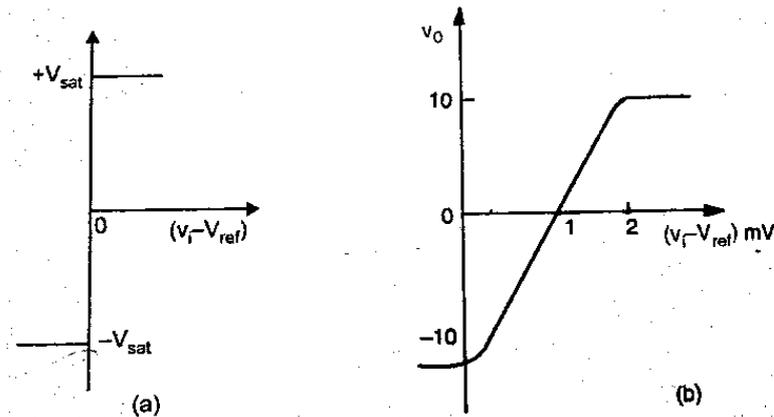

Fig. 3.17 Transfer Characteristics (a) Ideal Comparator (b) Practical Comparator
- It is basically an open-loop op-amp with output $\pm V_{sat}$ ($= V_{CC}$) as shown in the ideal transfer characteristics of Fig.3.17 (a).